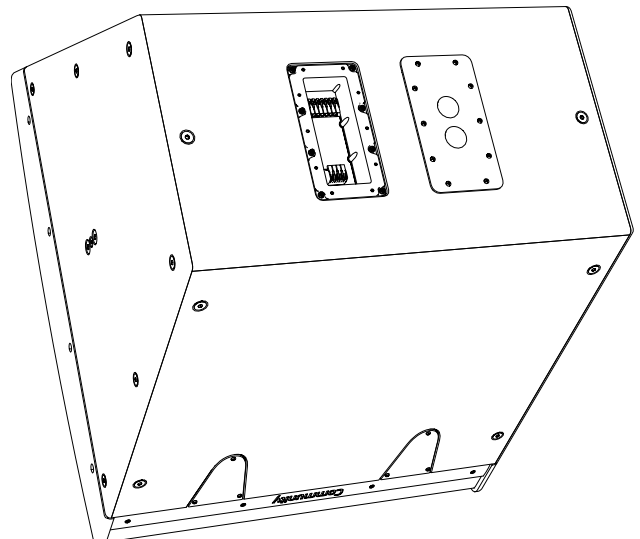

Figure 14. Plug removal on WR input panel cover (if needed) for Pass Thru panel - reverse for plug installation
5. In the case of a LVH-900WR/AP cabinet, attach gland nuts or fittings, wire the panel, and install a plug in any unused hole before attaching the covers to the cabinet. (Figure 14)